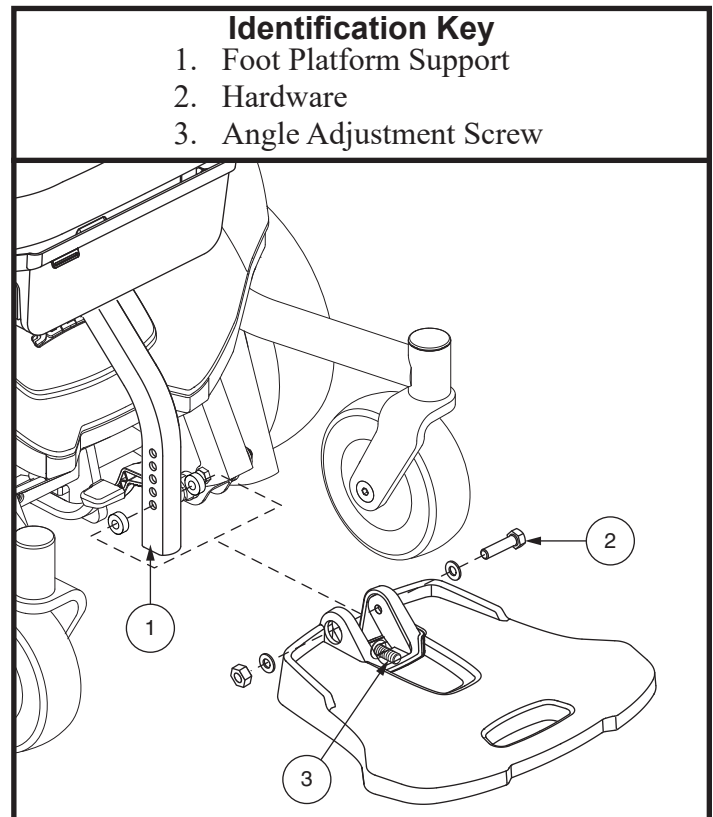

Figure 13. Foot Platform Adjustment
1. Remove the hardware from the foot platform support. See figure 13.
You can adjust the angle of the foot platform. See figure 13.